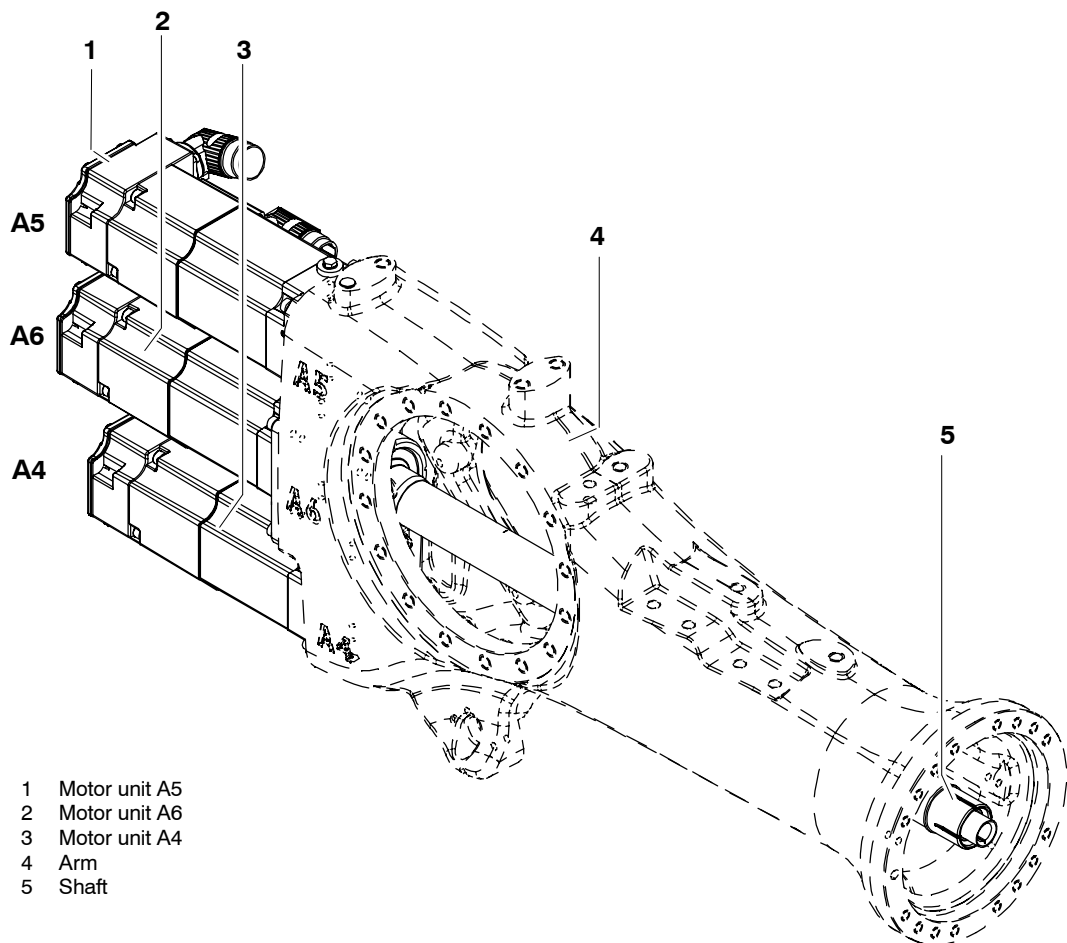

Fig. 5 Wrist axis motor units A4 to A6
The wrist axes are driven by three motor units. These are fastened to the arm (Fig. 5/4) by means of screws. Motor units A5 (1) and A4 (3) are of the same design and drive the respective wrist axes via toothed belts and shafts. Wrist axis A6 is driven directly by motor unit A6 (2) via a push-on shaft (5).